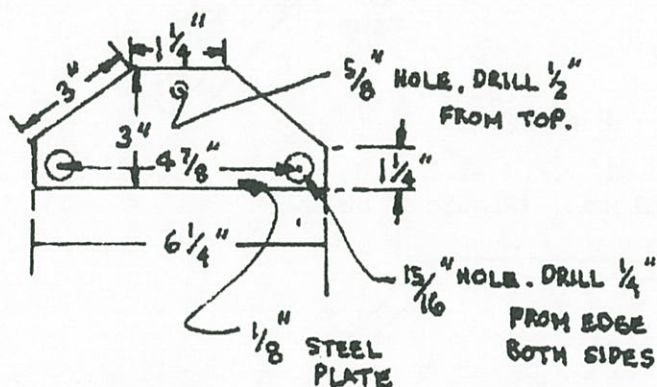

FIGURE 7
6. Make 2 pieces as shown in Figure 7 out of $\frac{1}{8}$ " plate steel. There is a full size pattern on the back of this sheet. Using $\frac{5}{8}$ " bolts to line up the plates and the axle, weld the front fork assembly as shown in Figure 8.